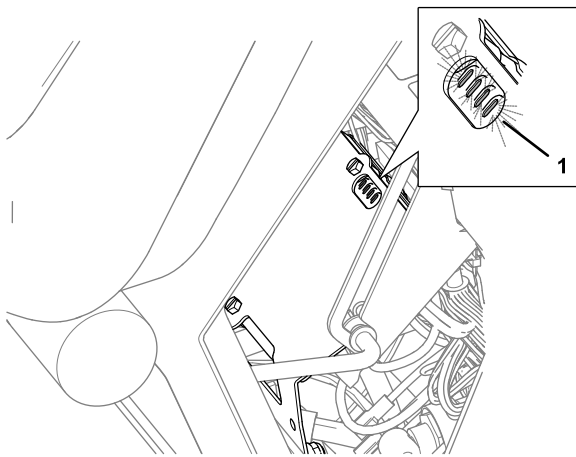

Figure 273
- Modem—the LED indicators illuminate (Figure 273).